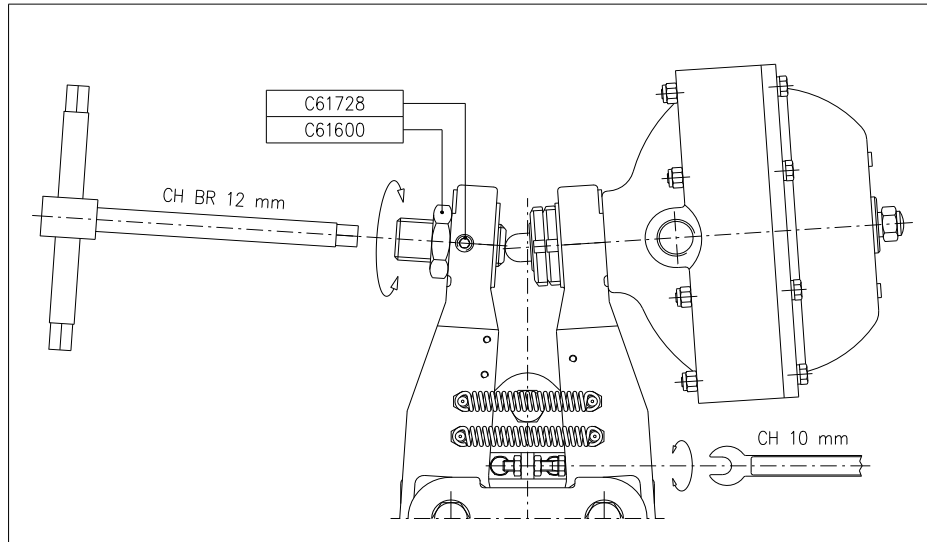

Figure 1
2. Adjust the play between the brake linings and the disc using the play adjuster and a n. 12 Allen key, rotating in the appropriate direction (Figure 1); when a play of 1 mm has been obtained between the disc and each brake lining, lock the adjuster in position screwing the nut (C61600) all the way down using a n. 36 spanner and locking the adjuster (C61728) using a n. 5 Allen key.
Adjust the screw located between the levers using a n. 10 spanner (Figure. 1), until the weight of the thruster is balanced; when balanced lock the screw by tightening the nuts.
3. Lock the nut C61600 and the grub screw C61728 (Figure 1).